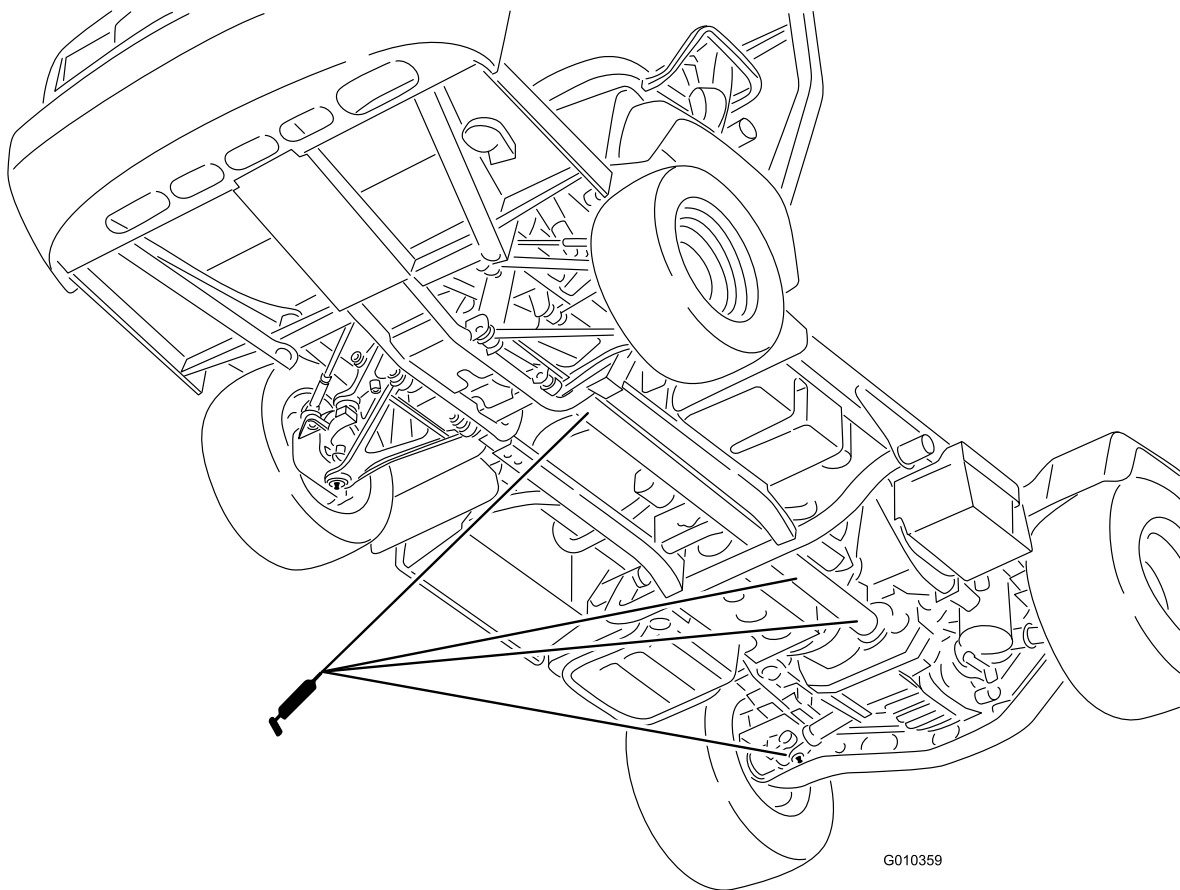

Figure 43
- U-joint (18) and 4 wheel drive shaft (3) as shown in Figure 43